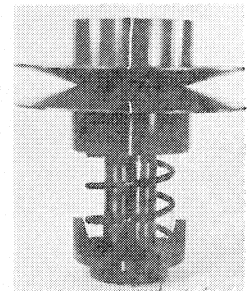

Fig. 12
5. Place **INBOARD** spring over sleeve, making sure all referenced surfaces are in line and flange end of spring is up. See Fig. 12.
6. Slide flange assembly over O-ring ramp, down onto sleeve. **DO NOT** bounce flange assembly on spring. Line up all match-marks as shown in Fig. 12.